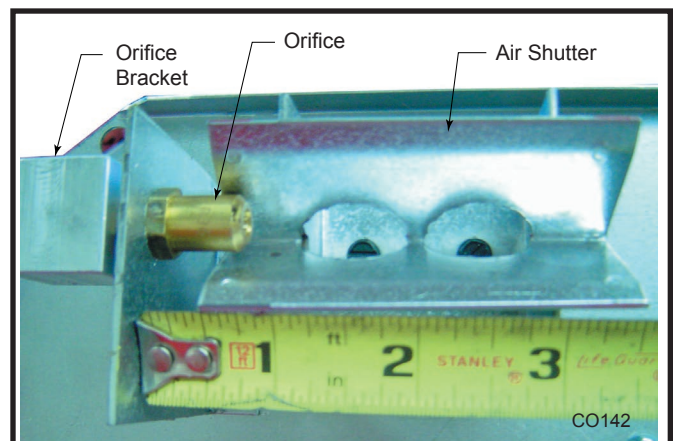

Fig. 77 The air shutter setting is 1/2" (13 mm) from the orifice bracket to the edge of the air shutter.
5. The air shutter is factory set according to table on Page 7 and should not need adjustment. The air shutter opening may be verified by measuring as shown in Figure 77.